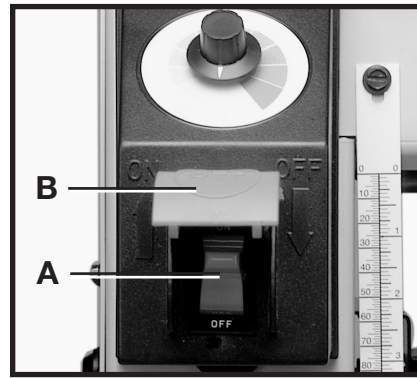

Fig. 12
1. The drum motor on/off switch (A) Fig. 12 is located underneath the switch shield (B). To turn the drum "ON", move switch (A) to the "ON" (up) position.